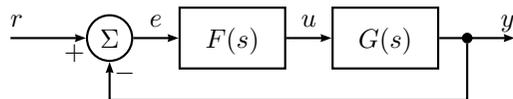

Figure 6.2a
- 6.2 Assume that we have constructed a controller $F(s)$ for the model $G(s)$, see Figure 6.2a, such that there is no steady state error when the reference signal is a step. Let the real system be given by
and assume that $G^0(s) \rightarrow 0$, $s \rightarrow \infty$. Also assume that the amplitude curve of the closed loop system has no resonance peaks and decreases, at least and asymptotically, with 20 dB₂₀/decade for frequencies over the bandwidth. What is the highest possible bandwidth we can use for the closed loop system in Figure 6.2a, while at the same time guaranteeing stability?